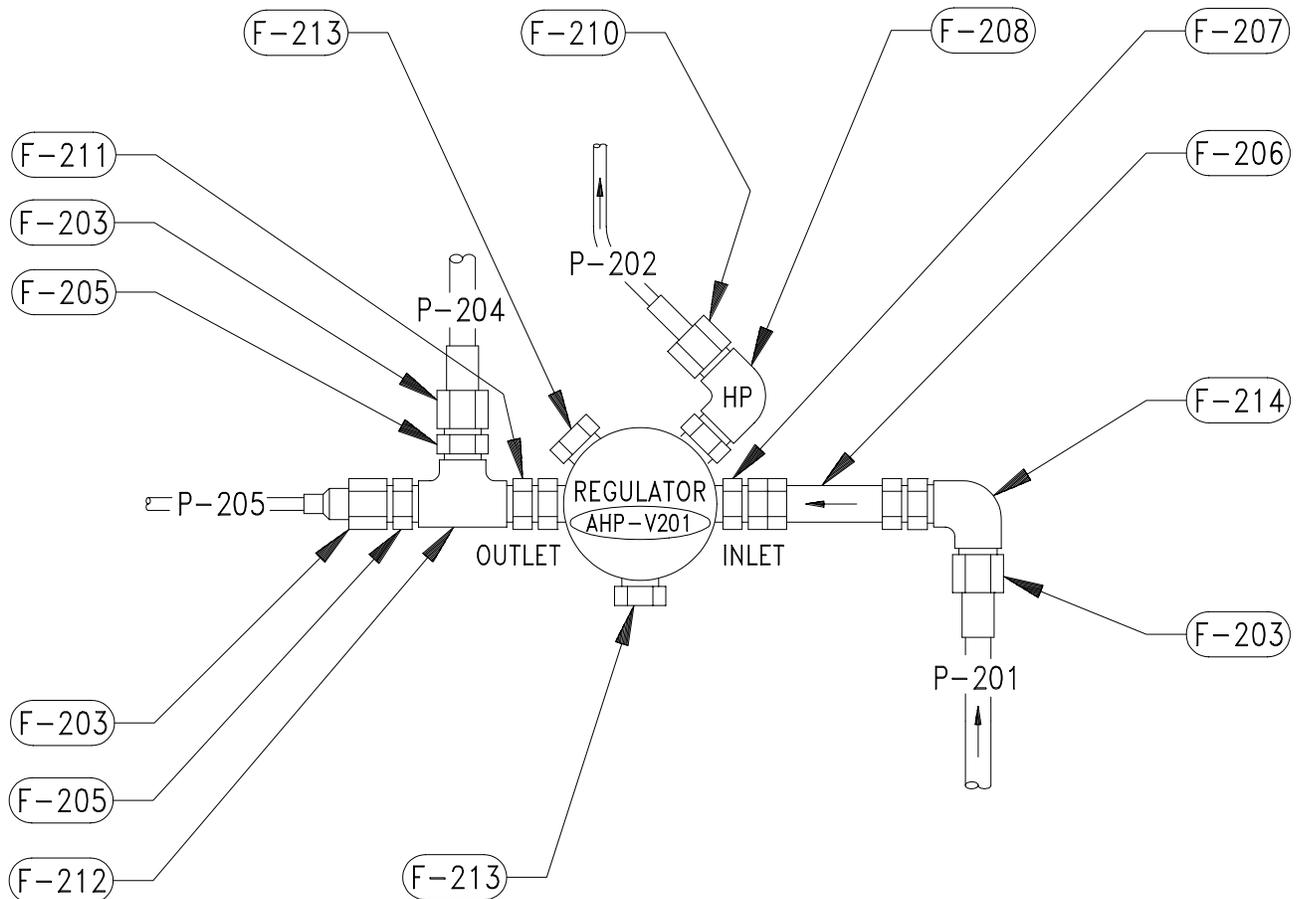
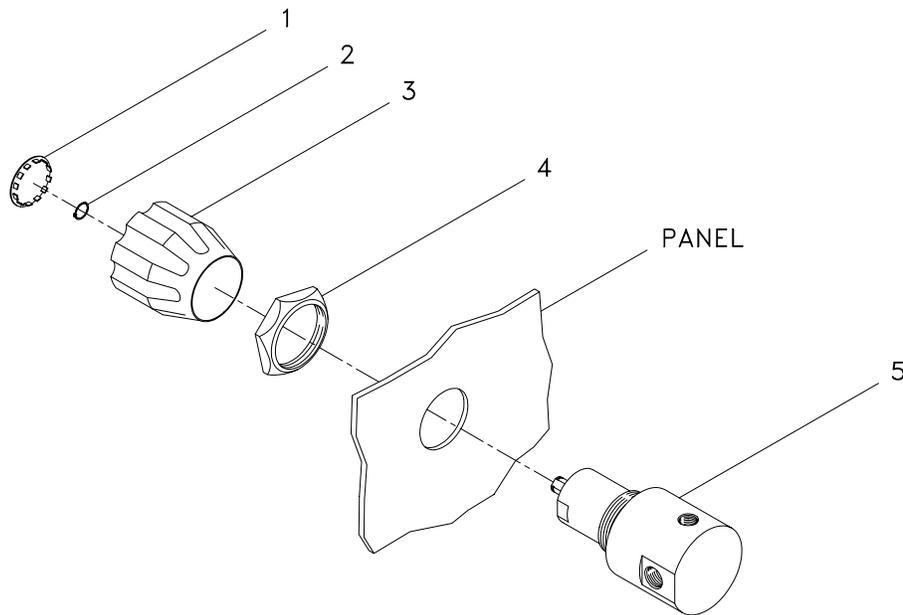

Figure 6-20. Location of Parts Attached to Regulator (AHP-V201)
Figure 6-21. Tescom HP Regulators (AHP-V201, AHP-V307)
Refer to Figure 6-20 for the location of parts called out in Steps (6) thru (8) and (10) thru (13). Figure 6-20 reflects a portion of the volume tank assembly schematic found on JID 6314821, sheet 3.
- (6) **AT INLET PORT ELBOW (F-214):** Loosen tubing nut (F-203) and remove tubing (P-201) from elbow (F-214). Bag open end of tubing.
- (7) **AT HP GAUGE PORT ELBOW (F-208):** Loosen tubing nut (F-210) and remove tubing (P-202) from elbow (F-208). Bag open end of tubing.
- (8) **AT OUTLET PORT TEE (F-212):** At top of tee (F-212), loosen tubing nut (F-203) and remove tubing (P-204) from tee adapter (F-205). At left side of tee (F-212), loosen tubing nut (F-203) and remove tubing (P-205) from tee adapter (F-205). Bag open ends of tubing.
Refer to Figure 6-20 for location of components called out in Steps (2) thru (8) and (10) thru (12).
- (2) **AT LP GAUGE AND VENT PORTS:** Remove bagging from the two bleeder plugs (F-213). Using approved lubricant, lubricate two new O-rings (M83248/2-904) and install on bleeder plugs (F-213). Install bleeder plugs in regulator vent port and unused LP gauge port.
- (3) **AT OUTLET PORT:** Remove bagging from tee (F-212). Using approved lubricant, lubricate one new O-ring (M83248/2-908) and install on positionable union (F-211). Install positionable union end of tee (F-212) in regulator outlet port. Tighten union nut.
- (4) Using approved lubricant, lubricate two new face seal O-rings (M83248/2-111) and install in O-ring grooves in tee adapters (F-205).
- (5) **AT HP GAUGE PORT:** Remove bagging from elbow (F-208). Using approved lubricant, lubricate one new O-ring (M83248/2-904) and install on straight threads of elbow (F-208). Install elbow in regulator HP gauge port.
- (6) Using approved lubricant, lubricate one new face seal O-ring (M83248/2-010) and install in O-ring groove in elbow (F-208).
- (7) **AT INLET PORT:** Remove bagging from positionable union (F-207), HP supply air filter (F-206), and elbow (F-214). Using approved lubricant, lubricate one new O-ring (M83248/2-908) and install on positionable union (F-207). Install end with positionable union (F-207) in regulator inlet port and tighten union nut.
- (8) Using approved lubricant, lubricate one new face seal O-ring (M83248/2-111) and install in O-ring groove in elbow (F-214).
Corrective maintenance for Tescom HP regulator (AHP-V201) includes removal and replacement, or repair if the capability for such repair exists at the organizational level. For removal and replacement, follow the procedure provided below, and unless otherwise noted, refer to Figure 6-21 for parts location and to Figure 7-34 for an index of replacement parts. For repair guidance, refer to the manufacturer's technical documentation and to the illustrated parts breakdown in Figure 7-34.
Refer to Figure 6-20 for the location of parts called out in Steps (4) thru (6) and (8) thru (11). Figure 6-20 reflects a portion of the volume tank assembly schematic found on sheet 3 of JID 6314821.
- (4) **AT INLET PORT ELBOW (F-214):** Loosen tubing nut (F-203) and remove tubing (P-201) from elbow (F-214). Bag open end of tubing.
- (5) **AT HP GAUGE PORT ELBOW (F-208):** Loosen tubing nut (F-210) and remove tubing (P-202) from elbow (F-208). Bag open end of tubing.
- (6) **AT OUTLET PORT TEE (F-212):** At top of tee (F-212), loosen tubing nut (F-203) and remove tubing (P-204) from tee adapter (F-205). At left side of tee (F-212), loosen tubing nut (F-203) and remove tubing (P-205) from tee adapter (F-205). Bag open ends of tubing.
- (7) While maintaining a firm hold on the regulator, remove panel nut (Figure 6-21, 4) from housing (5). Carefully remove regulator with fittings still attached.
- (8) **AT INLET PORT:** Loosen nut on regulator end of positionable union (F-207) in counterclockwise direction and remove union, HP supply air filter (F-206), and elbow (F-214) as a unit from regulator inlet port. Remove, cut, and discard exposed union O-ring (M83248/2-908) and elbow face seal O-ring (M83248/2-111). Bag removed components as a unit or bag open ends.
- (9) **AT HP GAUGE PORT:** Remove elbow (F-208) from regulator HP gauge port. Remove O-ring (M83248/2-904) and face seal O-ring (M83248/2-010) from elbow; cut and discard O-rings. Bag elbow.
- (10) **AT OUTLET PORT:** Loosen nut on regulator end of positionable union (F-211) and remove tee (F-212) with attached fittings from regulator outlet port. Remove O-ring (M83248/2-908) from positionable union and face seal O-ring (M83248/2-111) from both tee adapters (F-205); cut and discard O-rings. Bag tee and all attached fittings.
- (11) **AT LP GAUGE AND VENT PORTS:** Remove bleeder plugs (F-213) from regulator vent port and unused LP gauge port. Remove, cut, and discard plug O-rings (M83248/2-904). Bag bleeder plugs.
- (9) Insert regulator through rear opening in panel, then reach around panel and install panel nut (Figure 6-21, 4) on housing (5). To maintain correct positioning of ports, hold regulator securely while tightening panel nut.
- (10) **AT OUTLET PORT TEE (F-212):** Remove bagging from tubing (P-205), and install tubing to tee adapter (F-205) located on left side of tee (F-212). Tighten tubing nut (F-203). Remove bagging from tubing (P-204), and install tubing to tee adapter (F-205) located on top of tee (F-212). Tighten tubing nut (F-203).
- (11) **AT HP GAUGE PORT ELBOW (F-208):** Remove bagging from tubing (P-202) and install tubing to elbow (F-208). Tighten tubing nut (F-210).
- (12) **AT INLET PORT ELBOW (F-214):** Remove bagging from tubing (P-201) and install tubing to elbow (F-214). Tighten tubing nut (F-203).
- (13) At front of panel, install hand knob (Figure 6-21, 3) on housing (5). Insert retaining ring (2) into adjusting screw assembly (not shown).
- (14) Install hole plug (1) into hand knob (3).
- (15) Apply pressure to volume tank assembly from primary HP air source. Operate regulator through turning arc and leak test using NID solution prepared in accordance with paragraph 4.7.3.2. Correct leaks as necessary.
- (16) Complete reentry control report and log.